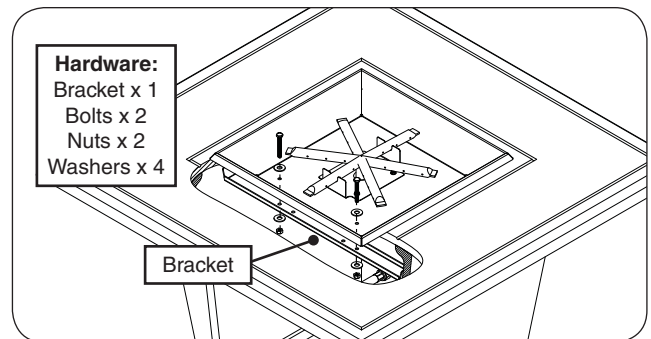

Fig. 25-4 Install bracket
6. Locate the supplied support bracket and install as shown in Fig. 25-4. The bracket must be inserted into the enclosure through the door opening, aligned with the holes found on the burner pan, and fastened with a 1/2" wrench and the supplied bolts (2), nuts (2), and washers (4).